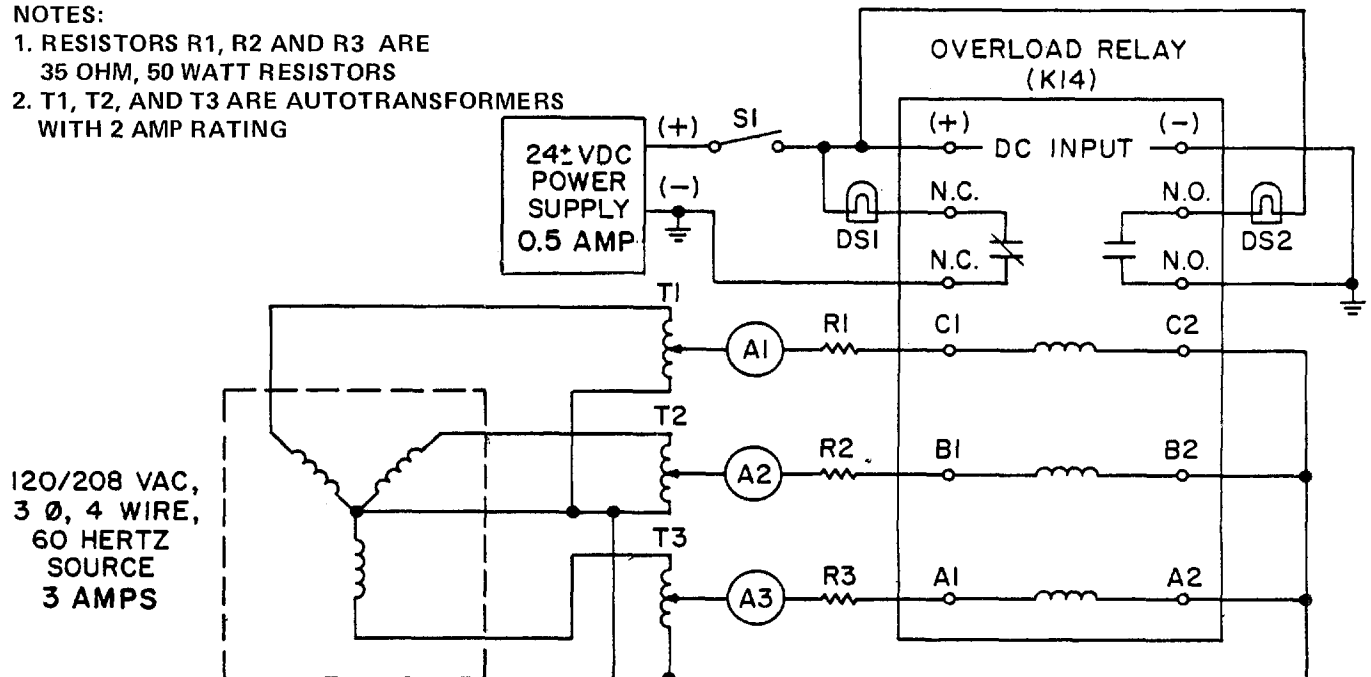

Figure 6-22. Overload Relay K14, Test Setup
a. Connect overload relay K14 to the test equipment shown in figure 6-22.